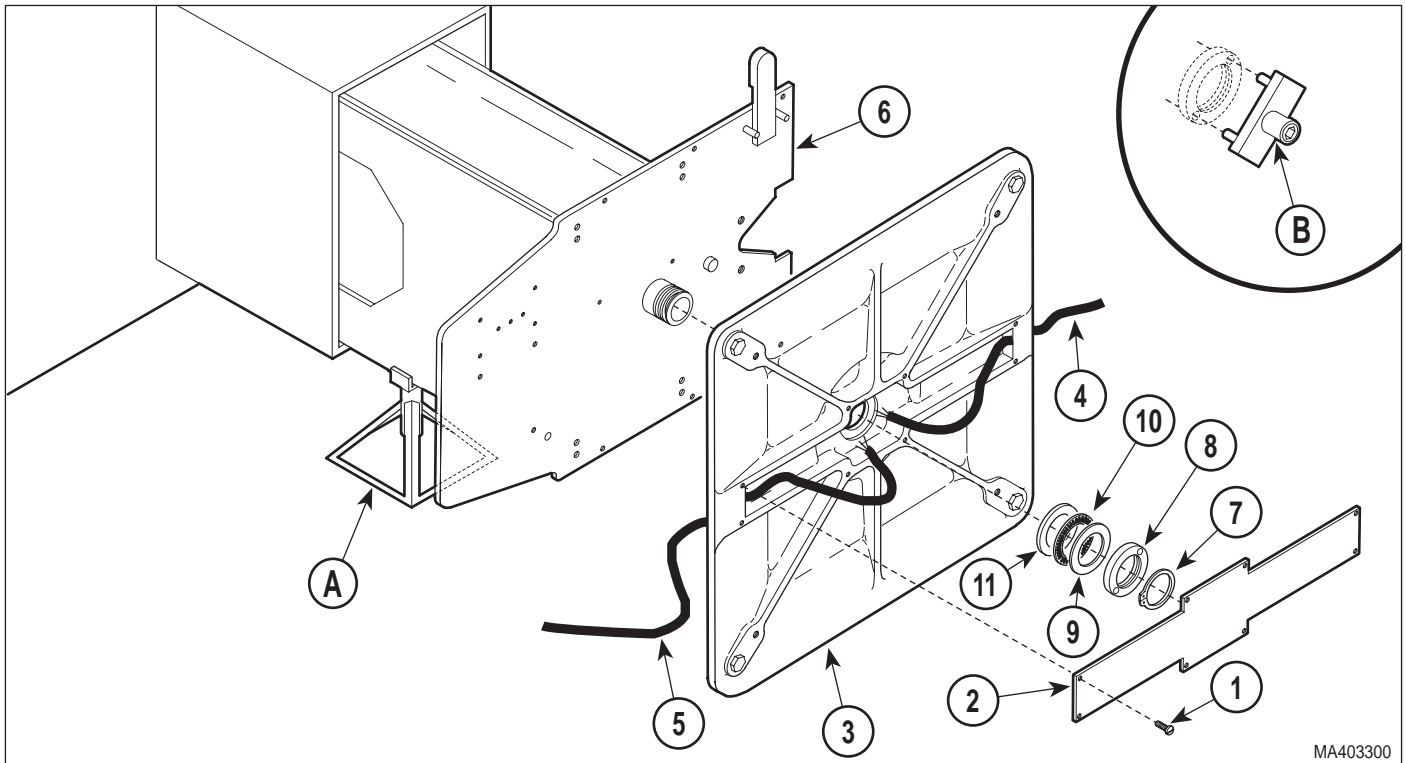

Figure 4-38. Rotational Base Removal / Installation
- (14) With help of an assistant, lay table onto its left (patients left) side and block base of table off of floor by putting a block/jackstand under base slide assembly. See Figure 4-38.
- (15) Remove eight screws (1, Figure 4-38) and cable cover (2) from rotational base (3).
- (19) Remove rotational base (3), thin bearing washer (9), thrust bearing (10), and thick bearing washer (11) from platform base weldment (6).
- (5) Install table rotation bearing (2) and rotation stop plate (3) on rotational base (4), making sure stop plate post (6) goes thru rotation stop plate to hold rotation stop plate in position.
- (6) Coat threads of two screws (1) with removeable threadlocking adhesive (Loctite 242).
- (7) Secure table rotation bearing (2) with two screws (1).
- (8) Coat mating surfaces of thick bearing washer (11, Figure 4-38), thrust bearing (10) and thin bearing washer (9) with high temperature grease.
- (9) Coat threads of rotation nut (8) with removeable threadlocking adhesive (Loctite 242).